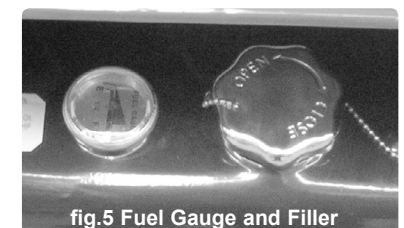

fig.5 Fuel Gauge and Filler
- 5.1.2 Fill the fuel tank (fig.5) with paraffin, kerosene or diesel until the fuel gauge points to "F".